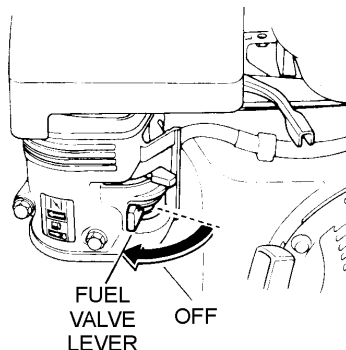

Figure 17. Fuel Valve Lever (OFF)
3. Place the fuel shut-off lever (See Figure 17) in the **OFF** position